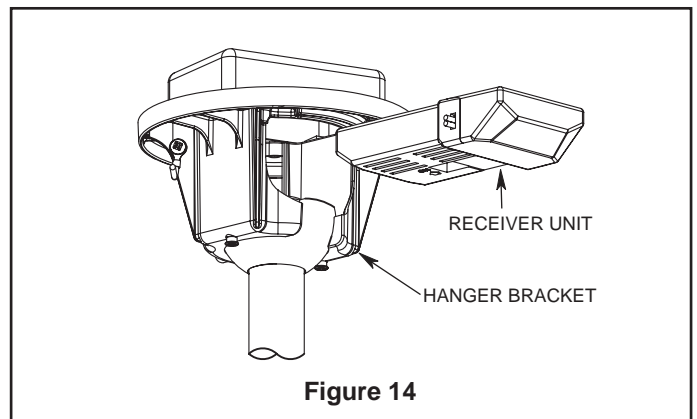

Figure 14
- 3. Slide the receiver unit into the open end of the hanger bracket (Figure 14).